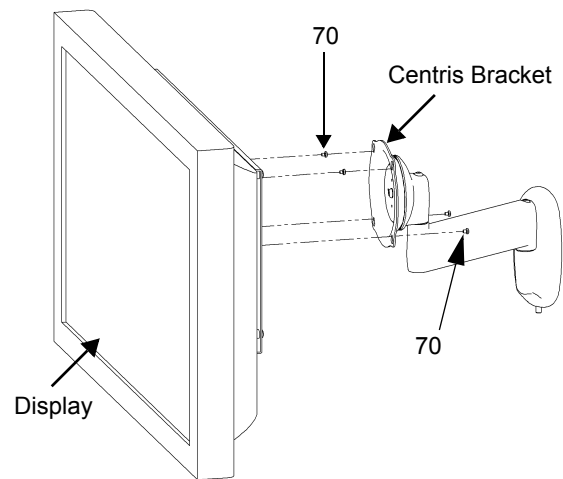

Figure 7: Attach Display to Centris Bracket
1. Start two M4 x 8mm Phillips pan head screws (70) into the top two mounting holes of the previously attached interface bracket (see Figure 7).
3. Install the remaining two M4 x 8mm Phillips pan head screws (70) into the bottom two mounting holes of the display.
4. Secure the display to the mount (Centris bracket) by tightening all four M4 x 8mm Phillips pan head screws (70) (see Figure 7).